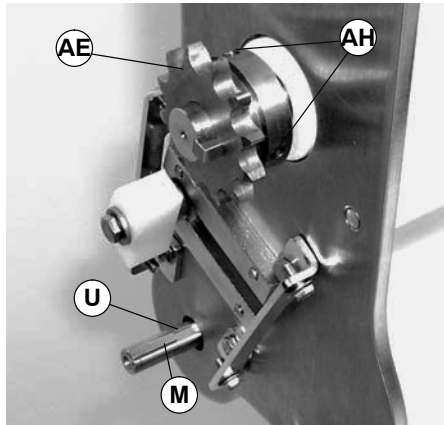

Figure 11
NOTE: Depending on sprocket sizes, it may be necessary to remove drive sprocket (AE of Figure 11) by loosening two set screws (AH) to install chain and sprockets.
4. Install key (M) on conveyor input shaft (U).